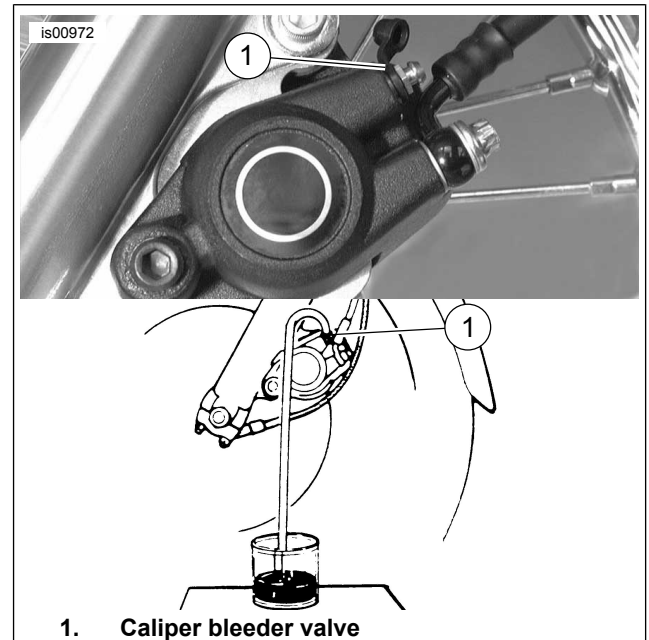

Figure 1. Draining Brake Fluid
2. See Figure 1. Open bleeder nipple cap on front brake caliper. Install end of a length of plastic tubing over caliper bleeder valve (1), while placing free end in a suitable container. Open bleeder valve about one-half turn. Pump brake lever to drain brake fluid.